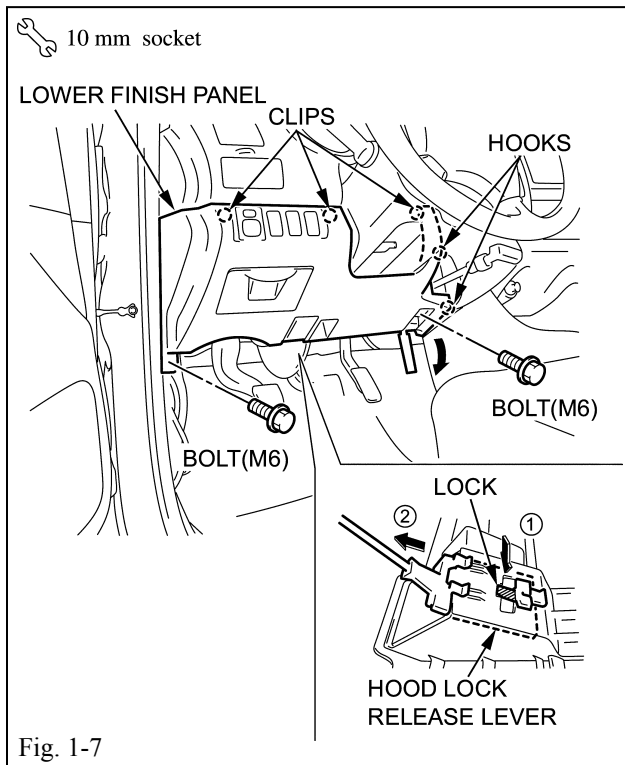

Fig. 1-7
- (1) Remove two bolts from lower finish panel and remove lower finish panel. (Fig. 1-7)
- (2) Pull out to remove the hood lock release lever while pressing the hood lock release lever lock. (Fig. 1-7)